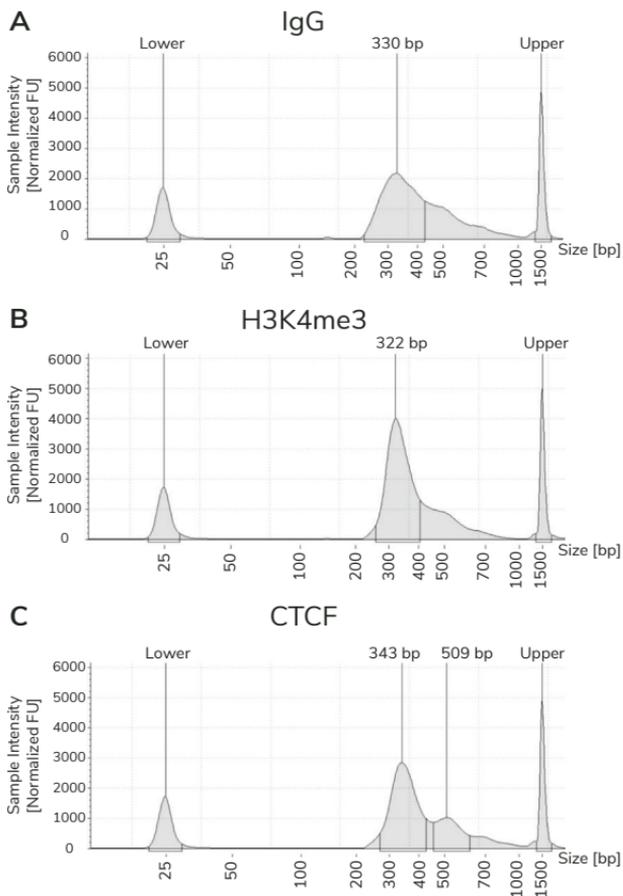

FIGURE 8
56. The final traces should show predominant enrichment of mononucleosome-sized fragments, such as those yielded by H3K4me3 and CTCF antibodies in **Figure 8** (~300 bp: ~170 bp + 125 bp sequencing adapters). Adapter dimers, if present, are observed as a peak at ~125 bp; see **Appendix 1.4**.